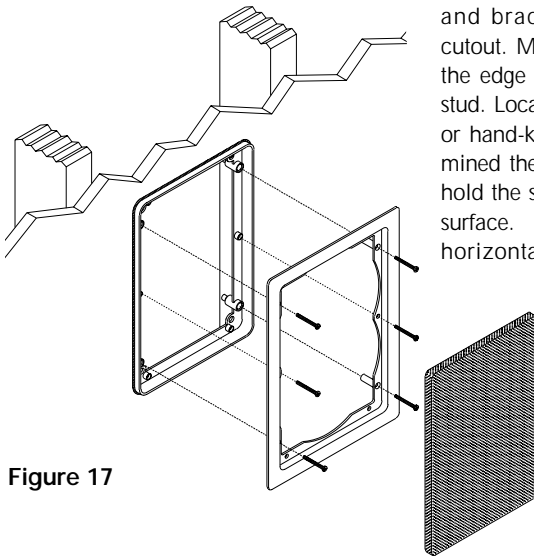

Figure 17
8. Attach the frame to the bracket by screwing the frame to the bracket using the supplied screws. Do not overtighten the screws, this will distort the frame and the grilles will not fit (this is not permanent, just loosen the screws and the grille will pop in). The screws should pull the frame and bracket together (sandwiching the drywall) so that the frame is absolutely flush with the wall surface. There should be no gaps between the wall and the frame (**See Figure 17**).